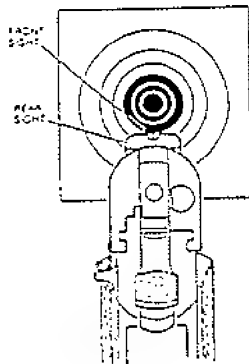

FIGURE 5-AIMING
3. Grasp pistol by stock and, with index finger resting along the outside of trigger guard, take aim. Aim by aligning target with front and rear sights. (See Figure 5). After identifying your target and seeing that it is clear to shoot, focus on the front sight. Be sure you have a safe backstop. **THINK! What you will HIT if you MISS the target?**